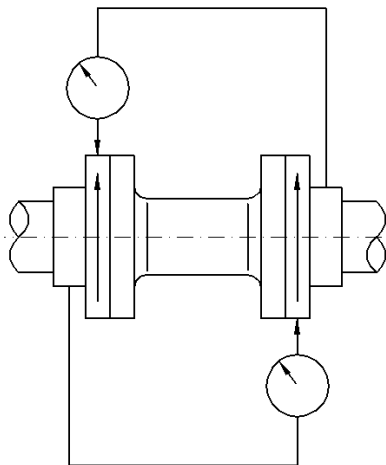

Figure 4.10
- 3) Using the coupling nut or the draw holes, clamp on the driven machine half-coupling a suitable extension arm or bracket sufficiently long to extend across the space between the driven machine and driver coupling hubs. Attach to the bracket as shown in Fig.4.10 a dial indicator with the probe resting on the outer diameter of the driver half-coupling.
For couplings with narrow flanges use a dial indicator as shown on figure 4.10 to check both parallel and angular alignment.